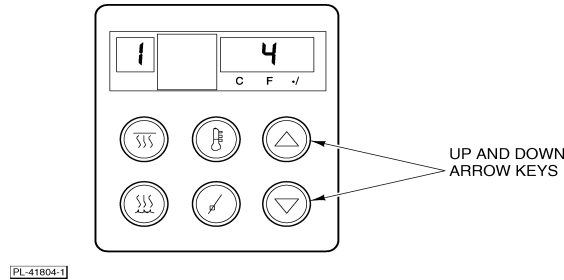

Fig. 20
2. Press the up arrow,  or down arrow, , to select desired setting (Fig. 20).